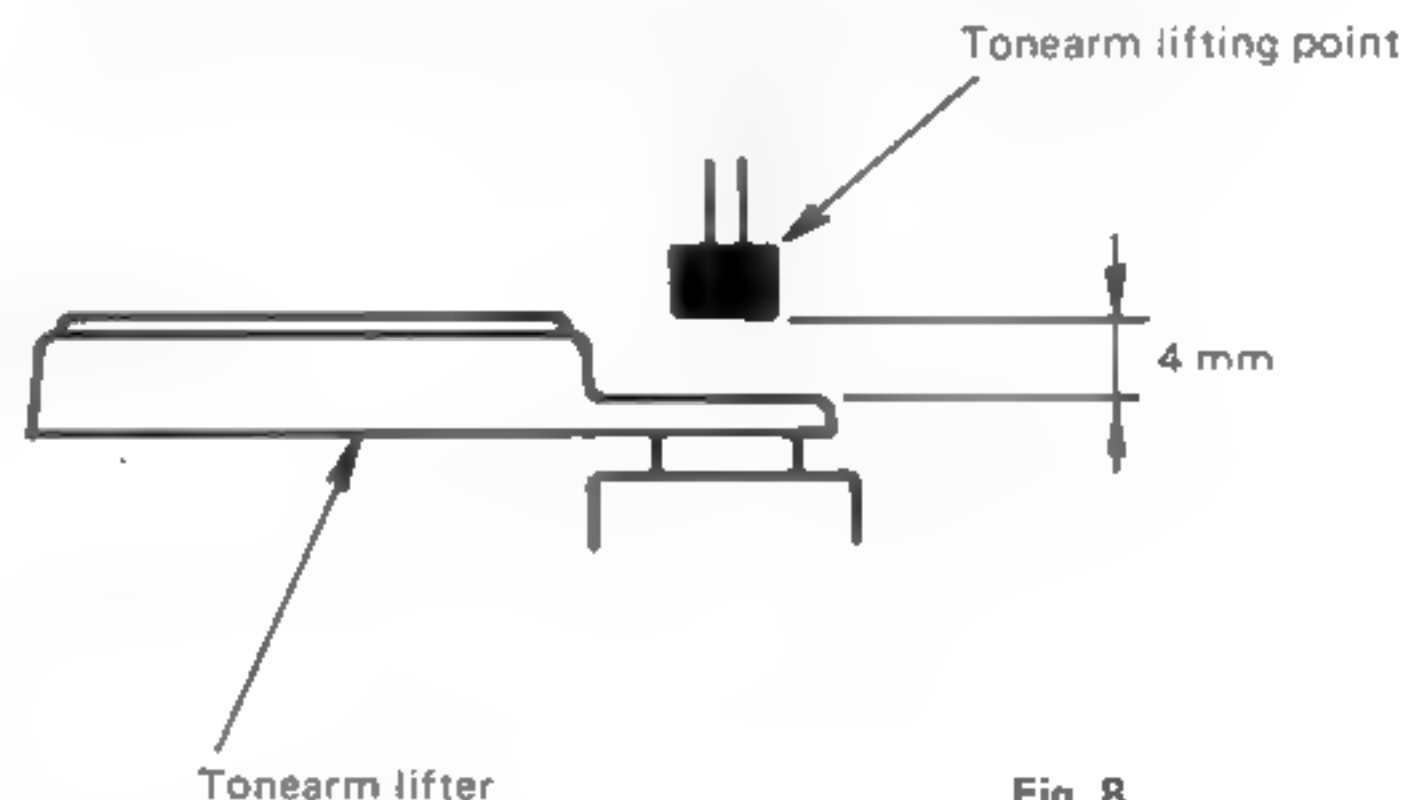

Fig. 8
5. Adjust the tonearm lifter height adjusting screw with the tonearm placed on the arm rest and the tonearm lifter set to the down position until the clearance between the tonearm lifting position and the tonearm lifter is approx. 4 mm. Turning the tonearm lifter height adjusting screw clockwise increases the clearance, turning the screw counterclockwise decreases it. See Fig. 8 below.